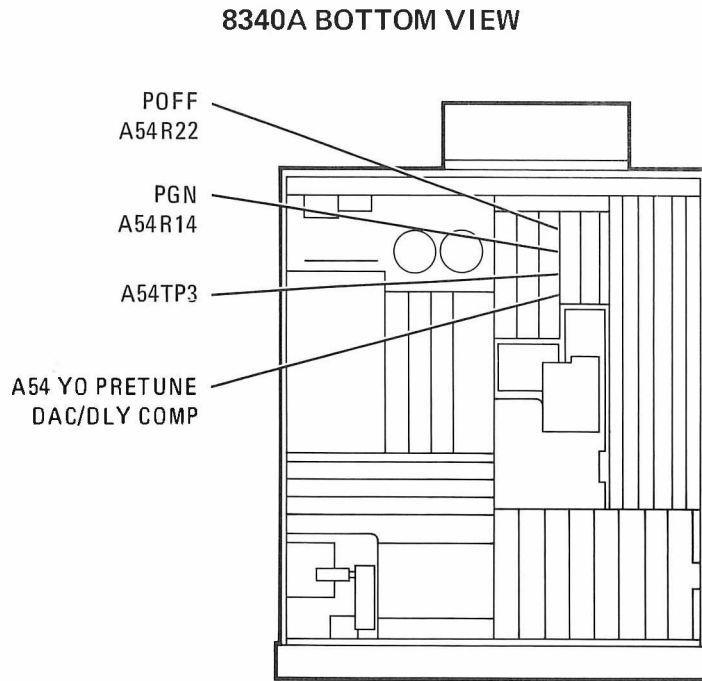

Figure 5-15. YO Pretune DAC Gain Adjustments Location
3. Adjust A54R22 POFF control (Figure 5-15) for -5.75 ± 0.001 Vdc.
5. Adjust A54R14 PGN control (Figure 5-15) for -17.5 ± 0.001 Vdc.